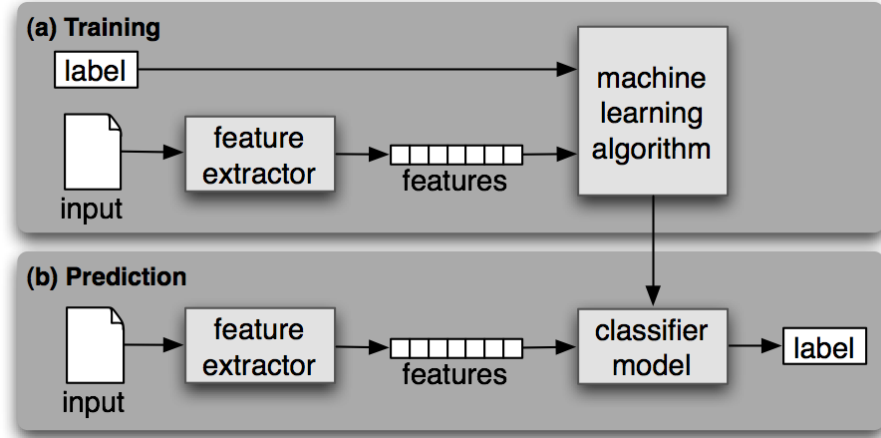

Figure 2: A general framework for the supervised classification.
**In this assessment**, you are given residential aggregate load data (i.e., smart meter reading) with appliance usage labels (i.e., whether the target appliances are being used or not). The target appliances include air conditioner, electric vehicle charger, oven, cloth washer, and dryer. This is a typical classification problem, and there are many machine learning methods (such as logistic regression, SVM, and tree-based methods) that can be used in this classification task. The inputs are labels and extracted features, and the response variables are target appliance status (i.e., being used or not). Figure 2 shows a typical framework used in the supervised classification.3 As shown in the figure, there are three major steps: generating features, developing a proper classifier, and applying the classifier to the unseen data. The feature extractor is shared by both training and prediction, which tells us that data used in training and prediction should share the same feature space.